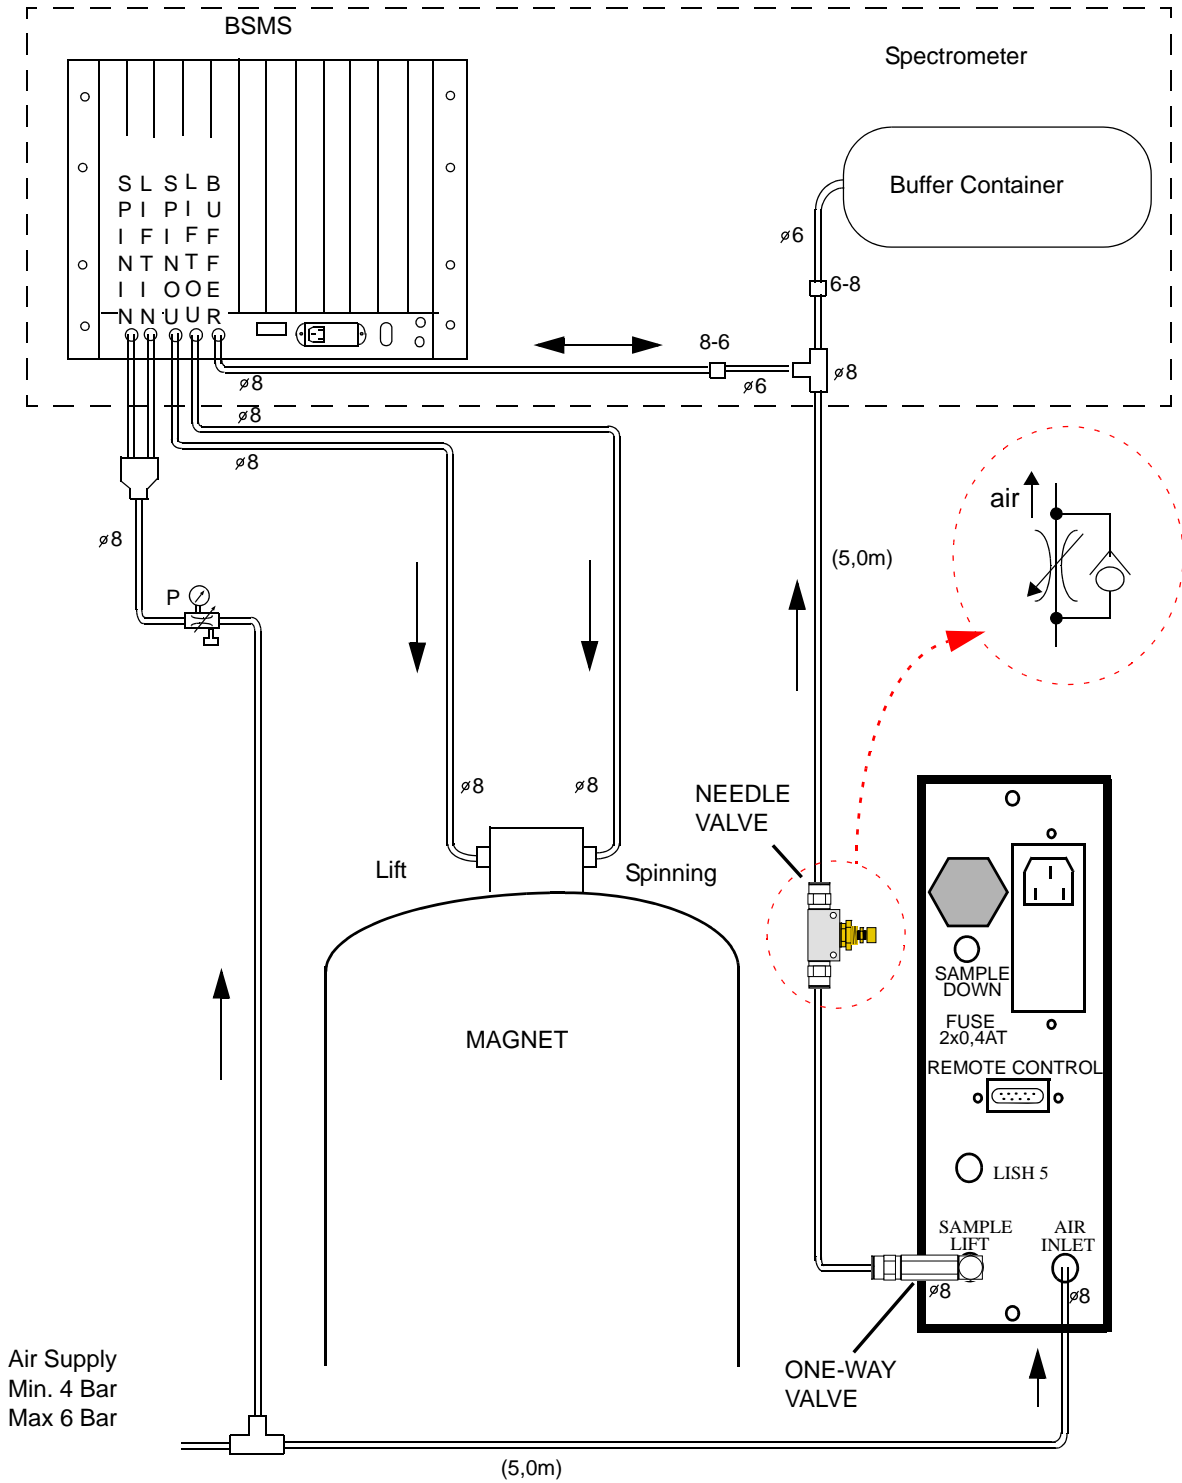
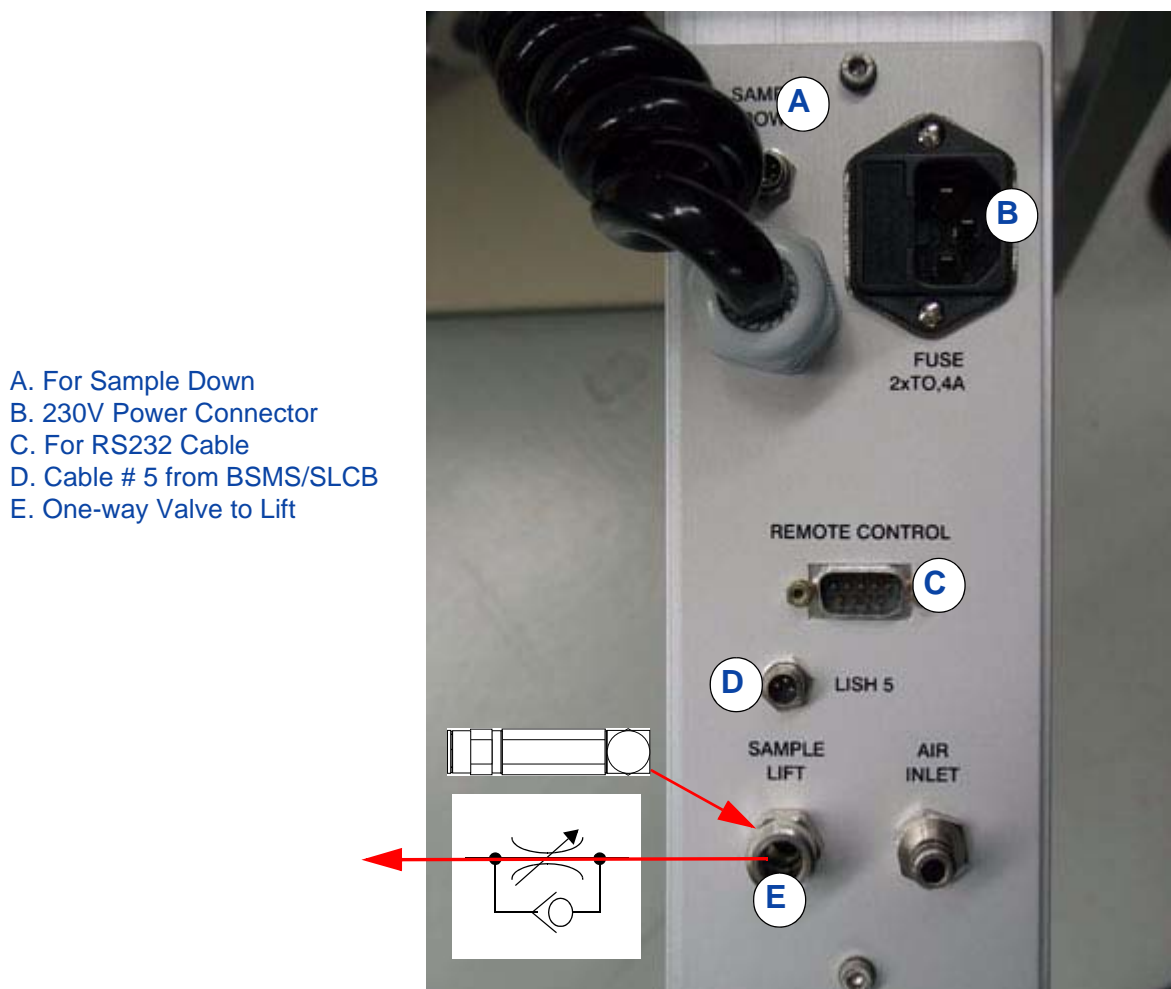
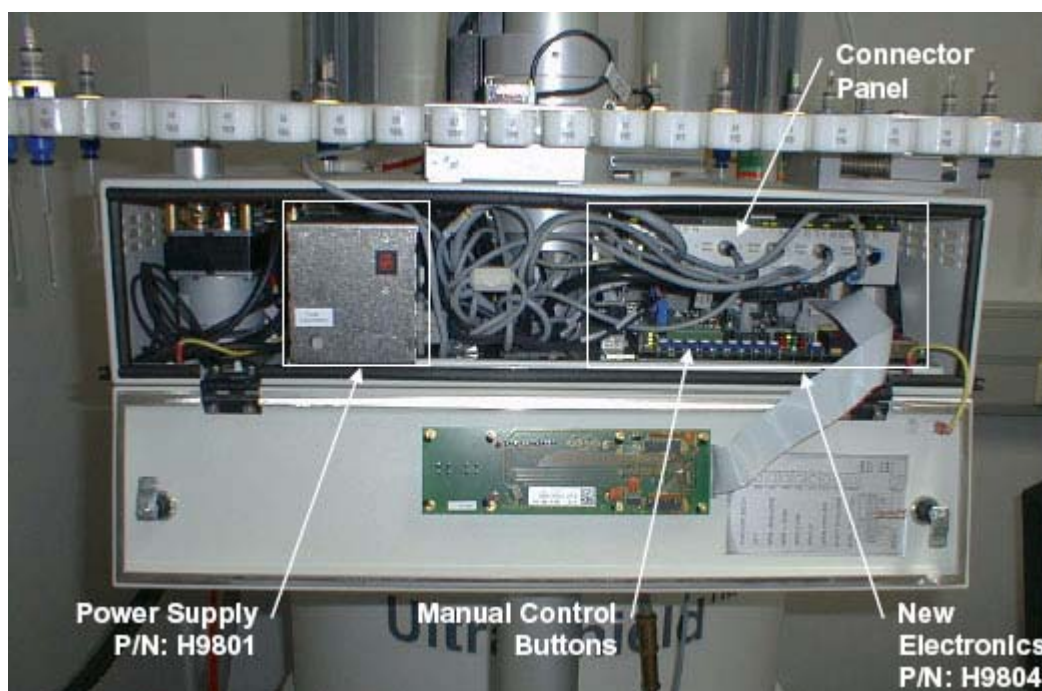

Figure 3.15. Pneumatic Connections to Magnet and Console.
Figure 3.16. Cable and Pneumatic Hose Connection Panel
Figure 4.1. Cabinet View Showing Main Components
The pressure of the compressed air supply should be between 4 and 6 bar (50-60 PSI). Connect the one-way valve supplied in the accessory kit to the sample lift valve on the Cable and Pneumatic Hose Connection Panel as shown in **Figure 3.15** and **Figure 3.16**. Add the needle valve supplied in the accessory kit between the sample lift valve and the BSMS.
Assemble the pneumatic tubing on and around the sample changer as shown in **Figure 3.15**.
Refer to **Figure 3.16.**
Make sure the mains connector is plugged into the connection panel of the square column piece (see Figure 3.16). Rotate the red security switch outwards and push the black start switch (see the figure below). Press one of the manual control buttons right after turning the power on and hold it down for at least 5 seconds before releasing it. All mechanical functions can now be switched manually by pressing the manual control buttons on the pneumatic assembly (Figure 4.1).
Perform the following tasks with the manual switches shown in **Figure 4.1.**:
**To enable the manual control buttons, press one of them (e.g. BarcValve) right after turning the power on and hold it pressed for 5 seconds before releasing it. Now you can use the manual control buttons (**Figure 4.1.**) to perform the following functions (the correct switches to use are in parenthesis):**